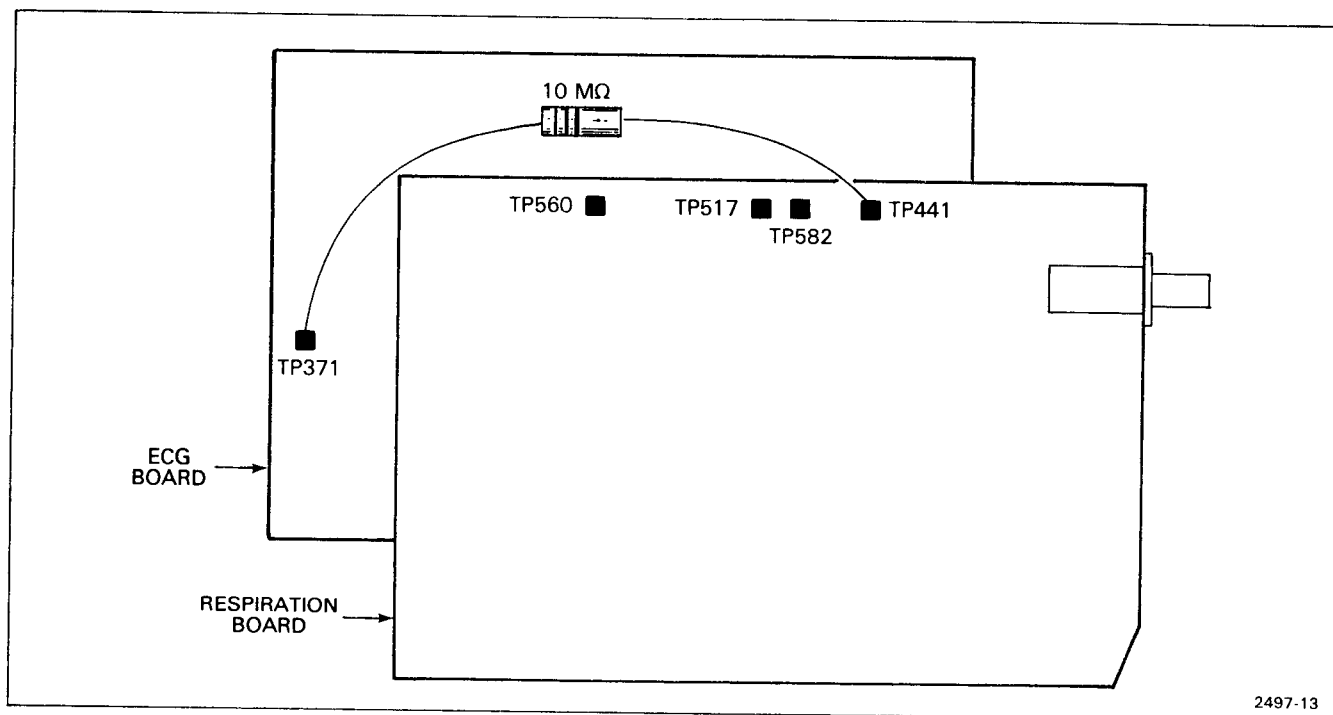

Figure 5-4. Respiration-rate test-signal connection.
b. Connect a 10 M Ω resistor between TP 371 on the monitor ECG board and TP441 on the monitor Respiration board. See Figure 5-4.